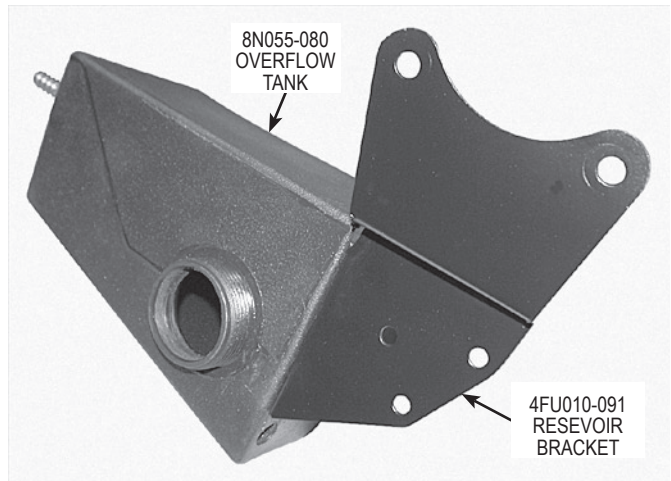

Fig. 3J-a
2. Attach the rear reservoir mounting bracket 4FU010-091 to the reservoir with the 1/4-20 x 1/2" long bolts and washers provided. (See Fig.3J-a.)